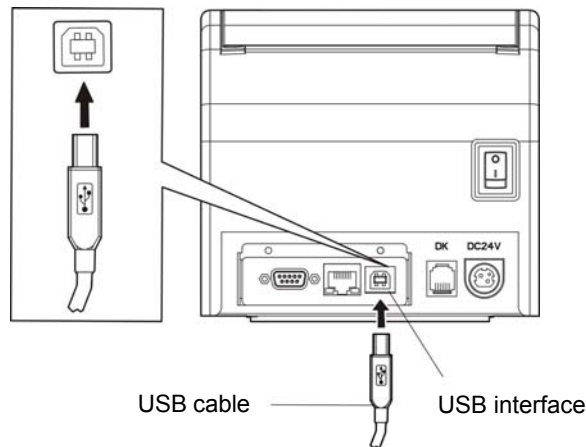

Figure 2-6 Connecting the USB cable
2. Plug the USB cable B end (square shape) into the printer's USB interface. (As shown in Figure 2-6)